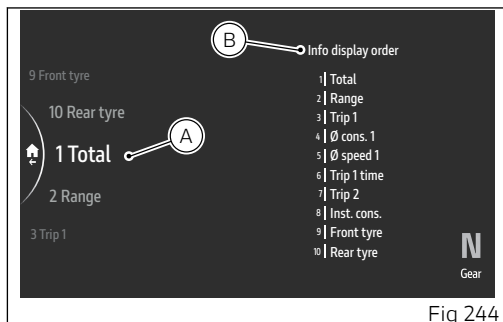

Fig 244
The list of the 10 selectable items, with the number of their current position (A, Fig 244) is displayed in the middle. The current order of the Info display (B, Fig 244) is displayed on the right-hand side.
- Use the joystick ▲ ▼ to select “Total” and press ENTER (Fig 244).
To restore the original order, select the "Default" item and press ENTER: "Wait..." is displayed for a few seconds followed by "Restored". Then, "Default" item disappears from the menu list, while the positions of the items and the current order of the Info display are restored to their original conditions (Fig 244).